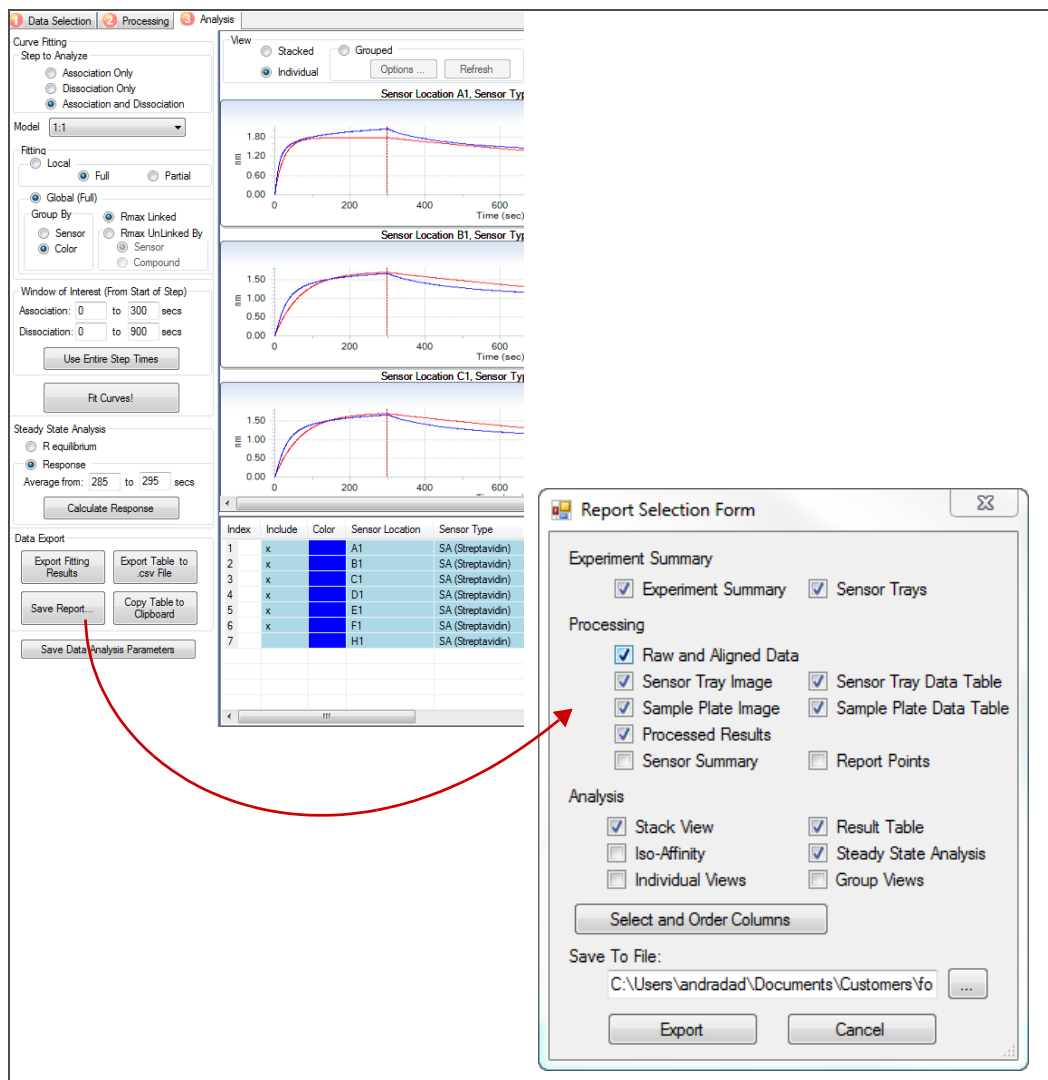

Figure 5-64: Report Selection Form
1. On the menu bar **File > Save Report**. Alternatively you can click **Save Report** in the Data Export section of the Analysis tab (Figure 5-64).
1. In the Data Export section of the Analysis tab, click **Save Report** > **Select and Order Columns** > **OK** (Figure 5-64).
3. In the Report Selection Form dialog box (Figure 5-64), click **Export**. The Results tab will now display the selected columns and the desired column order.